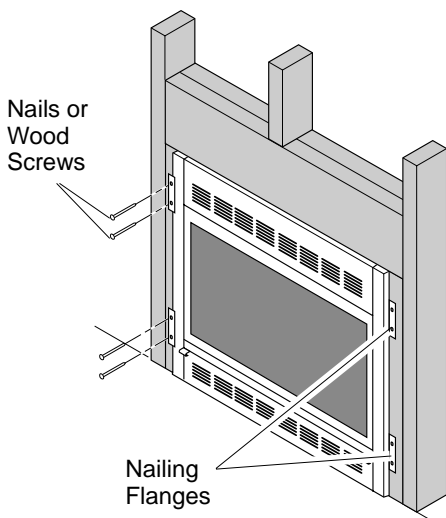

Figure 34 - Attaching Fireplace to Wall Studs
4. Place hearth base accessory against wall at installation location. Cut an access hole in hearth top to run flexible gas line to fireplace (see Figure 34). Make sure to locate access hole so cabinet mantel will cover it when installed. **Note:** You can secure base to floor using wood screws. Countersink screw heads and putty over.
8. Attach fireplace to wall studs using nails or wood screws through holes in nailing flange (see Figure 34).